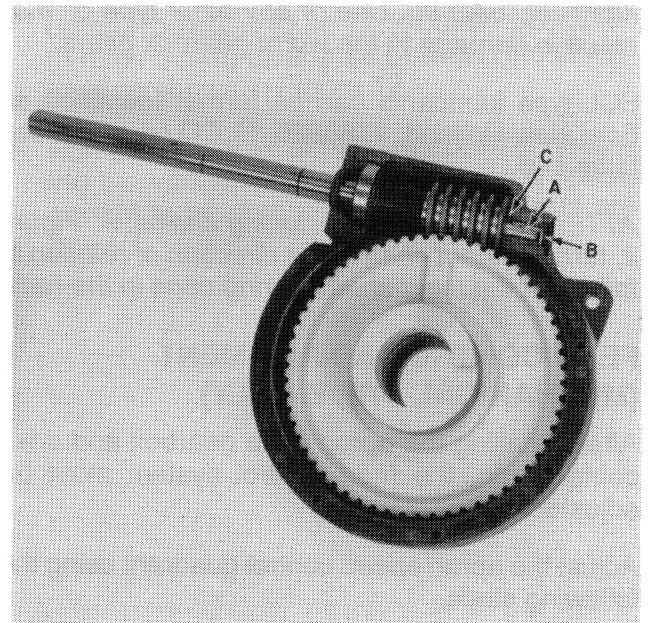

FIGURE 9
5. To replace the rear input shaft bushing, A, Figure 9, drive out expansion plug, B, and drive bushing, A, to the rear.
It is best to replace all seals if the gearbox is being repaired. Also check all bushings for wear. The only shimming required is between the rear of the worm and the gearbox at C, Figure 9. Reinstall the shims removed or shim to remove shaft end play without preloading the tapered bearing.
**NOTE: Coat the edge of expansion plug, B, Figure 9, with #2 Permatex before installing.**